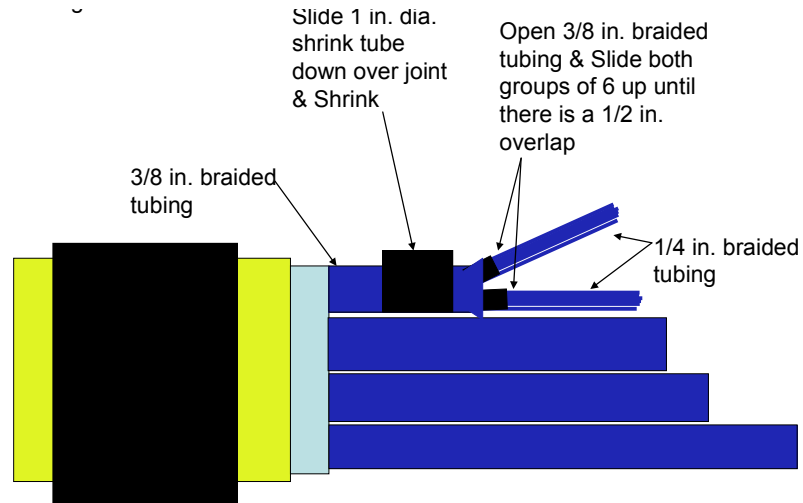

Figure 4
Step 10: Open the $\frac{3}{8}$ -inch braided tubing bottom end and slide the four groups of $\frac{1}{4}$ -inch braided tubing approximately $\frac{1}{2}$ inch into the $\frac{3}{8}$ -inch braided tubing (Figure 4).